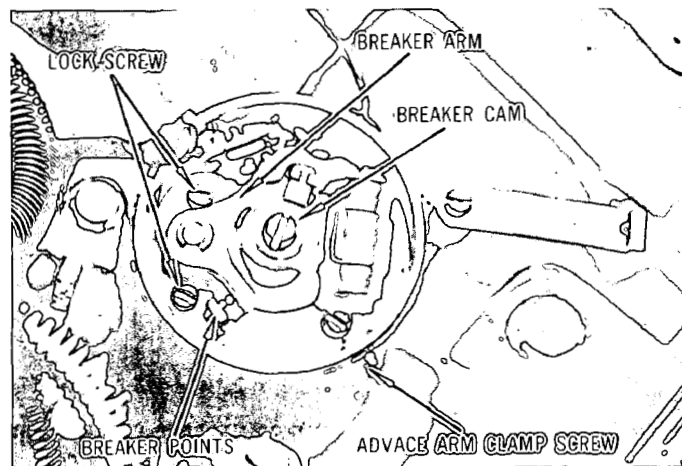

Fig. 7-4
Referring to Fig. 7-4, adjust breaker point gap as follows, and then proceed with instructions in "7-5 TIMING ADJUSTMENT".
- 4) If the timing light goes out before or after the timing marks line up, align the timing marks and slightly loosen the ignition timer advance arm clamp screw, shown in Fig. 7-4. Turn the timer body slowly clockwise or counter-clockwise until the breaker points are just beginning to open and the timing light just goes out. Tighten clamp screw. See Fig. 7-4.